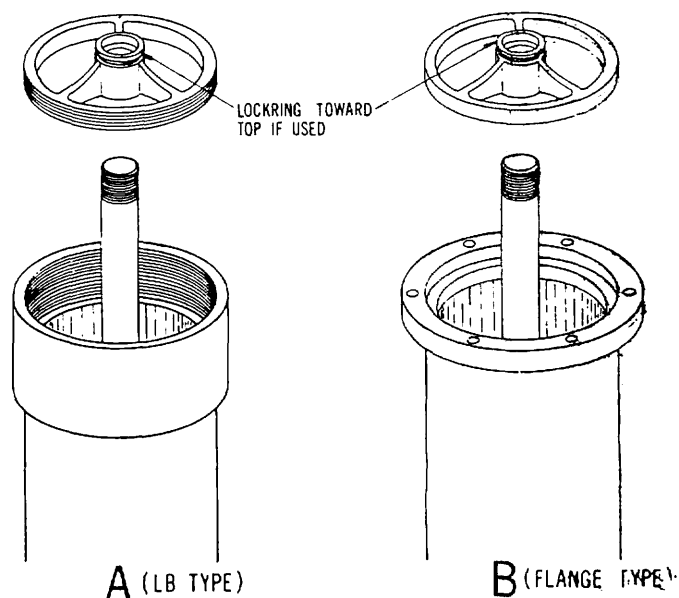

FIG. 12 - INSTALLATION OF SEPARATE SPIDERS (WHEN USED)
- 10a. If the column is threaded and a separate spider is used, slip the spider over the shaft, apply Laynecote thread compound to the spider threads and butt faces, then slip the spider into the coupling. See Fig. 12 (A).
ly, slip the spider over the shaft and seat it in the flange recess. See Fig. 12 (B). Since Laynecote dries fairly quickly, wait until the next column section is in the vertical position and the shaft connection is made, then apply Laynecote to both flange faces and to the butt faces of the spider.
- b. If the column is flanged, clean the flange recess and the bronze spider faces and O.D. with a file to remove any foreign matter, nicks and burrs. Slide the bronze spider over the tubing and seat the spider in the flange recess. See Fig. 12. Since Laynecote dries fairly quickly, wait until the next column section is in the vertical